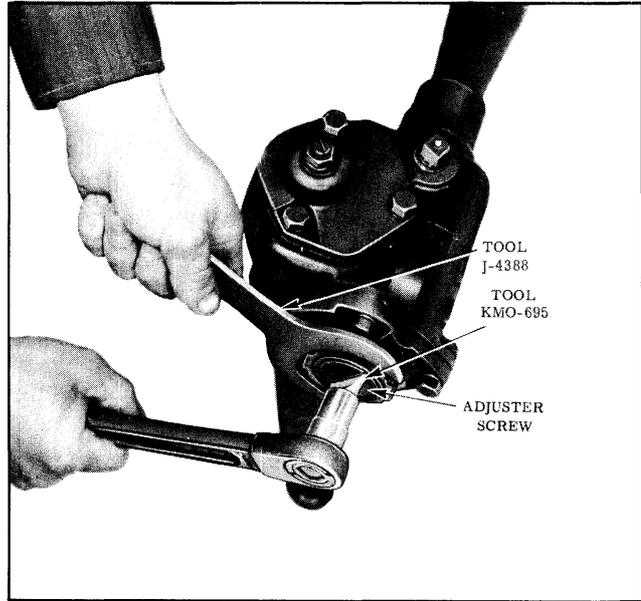

Fig. 5-3 Adjusting Worm Bearing
4. The pull required should be between 1/2 and 7/8 pounds. If it is not, it will be necessary to loosen lock nut at end of worm shaft with Tool J-4388 and turn worm bearing adjusting screw the required amount with Tool KMO-695 to bring the spring pull within limits. (See Fig. 5-3)